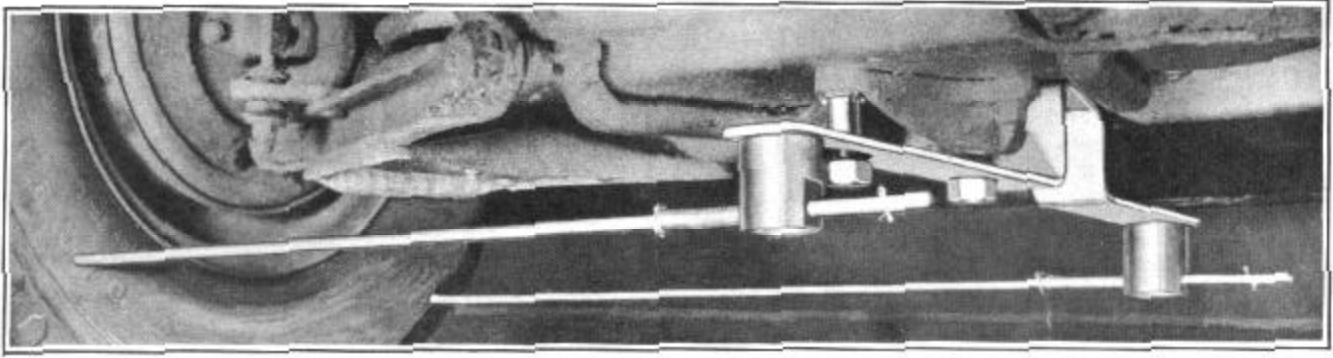

FIGURE 8
3. Install gauge No. J-2953, Figure 8, with gauge clamp on the center steering arm.
6. Place arms of gauge against tire as shown in Figure 8 with both arms at equal height on the tire.